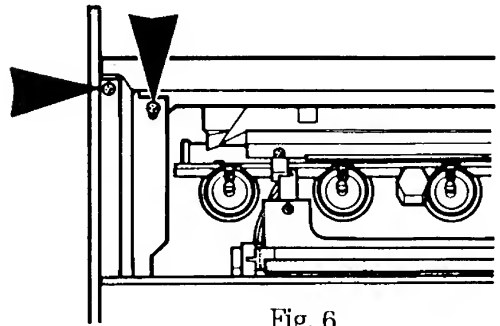

Fig. 6
3. Remove the 4 screws from the front of the hotplate as shown by Fig. 6 (2 each side).